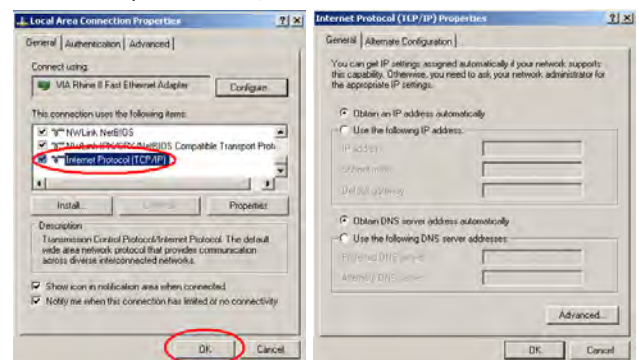

Figure 3.b - Network settings
6. Click "Properties": the window shown in Figure 3.b (left) is displayed
7. Double click "Internet Protocol (TCP/IP)": the window shown in Figure 3.b (right) is displayed.